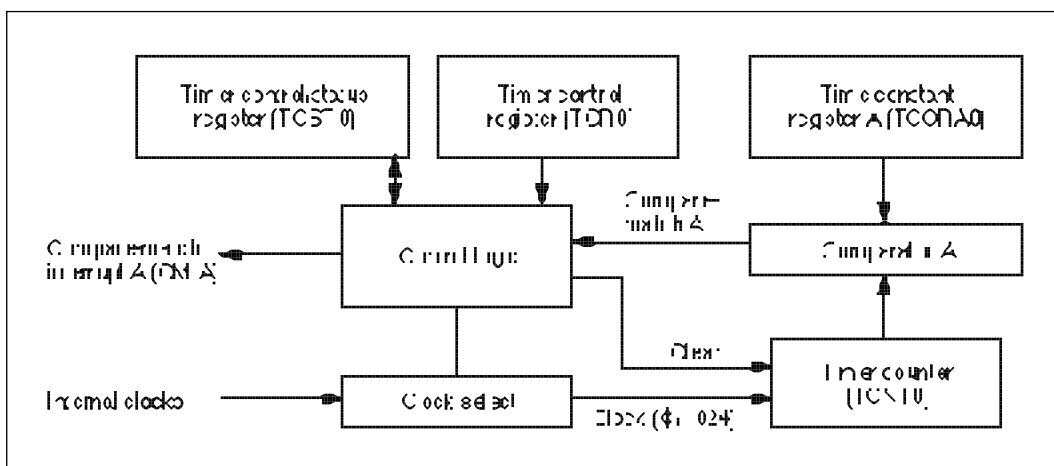

Figure 2 Eight-Bit Timer Block Diagram
1. Figure 2 shows a block diagram of the eight-bit timer used by this sample task. The eight-bit timer has the following functions: